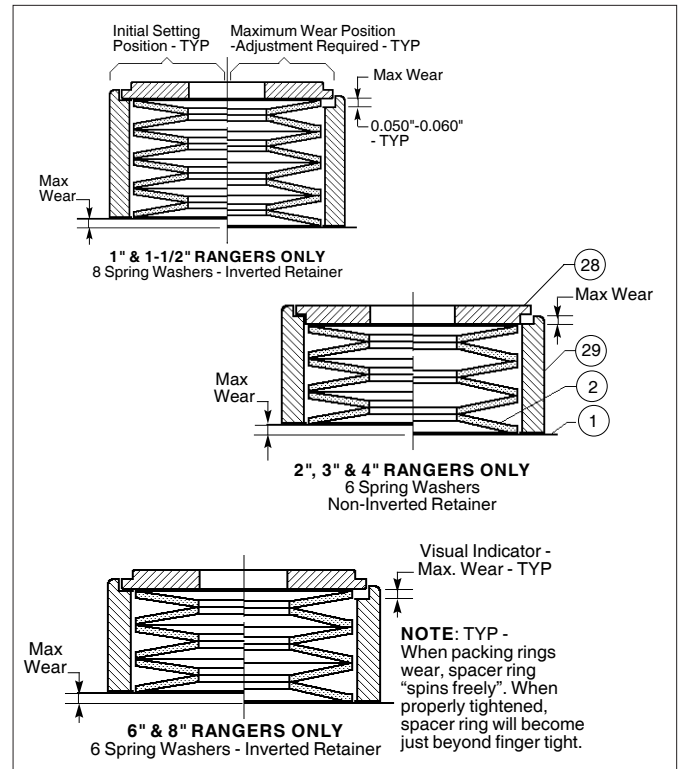
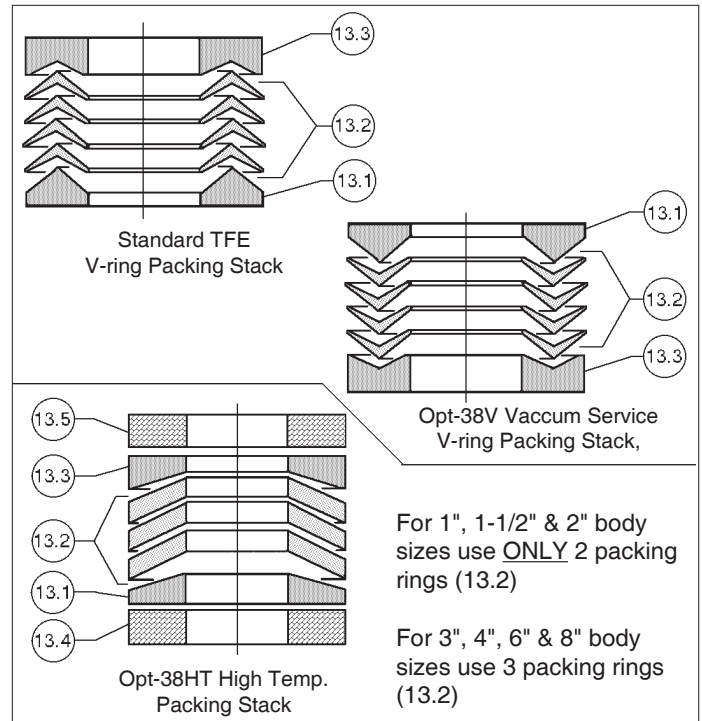

FIGURE 9
FIGURE 11
1. Ensure that packing flange nuts (22) have not worked loose during shipment.
2. For non-live loaded construction, hand tighten the nuts (22) enough to stop any leakage. Do not over tighten.
3. For live loaded construction, if spacer ring (29) is loose, tighten both nuts (22) equally
until spacer ring (29) no longer “spins freely” using two fingers. Rotate both nuts (22) additional 1/2 revolution for correct packing load. See Figure 9 for correct orientation of live-loaded packing design.
1. Remove the actuator assembly (AA) from the valve body assembly (BA). Refer to Actuator maintenance manual IOM-48 or 148/148X.
2. Secure body (1) in a vise with the stem (7) horizontal to the floor. Place matchmarks between yoke (12) and body (1) to assist in final orientation when reassembled.
- a. Loosen both packing flange nuts (22) until clearance exists between the bottom of the nut (22) and the retainer (28).
- b. Spacer ring (29) should “spin freely”. If stacked mechanism (27)(28)(29) is not loose due to corrosion, debris, packed dirt, etc., tap the spacer ring (29) lightly while attempting to pry up the spacer ring (29) bottom with a thin flat tool.
- c. Remove both packing flange nuts (22) only after the live-loaded mechanism (27)(28)(29) is “free” and loose.
- d. Pry up both live-loaded mechanisms (27)(28)(29) one side at a time. Carefully lift the mechanism (27)(28)(29) over the packing stud (21) ensuring that the Belleville spring washers (27) are not dropped in removal, preventing a determination of washers' (27) orientation one-to-the-other. Set the two mechanisms (27)(28)(29) down together, side by side.
- e. Inspect the retainers (28) for orientation. Both of the retainers (28) should have the same orientation. Improper/differing orientations will cause unbalanced loading of the packing rings (13). See Figure 9 for proper orientation.
- f. Inspect both spring washer (27) stacks for proper orientation by carefully lifting off the spacer ring (29) and retainer (28), exposing the spring washer (27) stack. Each stack of spring washers (27) should be oriented the same. Improper/differing orientation will cause unbalanced loading of the packing rings (13). See Figure 9 for proper orientation.
- g. Replace all Belleville spring washers (27) if there are any signs of corrosion. It is recommended that spring washers be replaced in full sets. The spacer rings (29), retainers (28), as well as the packing studs (21) should be replaced if corroded.
- h. Remove yoke (12) bolting by removing two cap screws (19) on 1", 1-1/2" and 2" sizes, or two nuts (22) on the 3", 4", 6" and 8" sizes.
- Secure body (1) in a vise with stem (7) vertical to the floor. Reassemble stem (7) per appropriate Subsection E., F., or H.
- Never replace packing (13) without reconditioning the stem (7) surface finish and the body (1) stuffing box as specified in Subsection IV.D.
- For TFE V-Ring Packing. (See Figure 11.)
NOTE: Following text pertains to “standard” packing stack (13) orientation. Stack procedures differ slightly for other packing options. See Figure 11.
- Remove packing follower bushing strip (16). Solvent clean packing follower (15). Insert new packing follower bushing strip (16). Ensure no overlap of strip (16).
- Carefully place lower adapter (13.1) of packing ring set (13) over stem's (7) end, properly oriented (see Figure 11). Using the packing follower (15), push the adapter (13.1) into the body's (1) stuffing box.
- Carefully install the first individual V-ring (13.2) over stem's (7) end, properly oriented. Push down as far as possible using fingers. Carefully place each ring (13.2) upon the other until all V-rings (13.2) are stacked, properly oriented.
- Place upper adapter ring (13.3) over the stem's (7) end, properly oriented.
- Place the packing follower (15) over the stem (7) end, properly oriented, until sitting on the upper adapter ring (13.3).
- i. Place each spring washer (27) stack over its packing stud (21) oriented as shown in Figure 9.
- j. Place each spacer ring (29) over its packing stud (21) and spring washer stack (27) oriented as shown in Figure 9.
- k. Place each retainer (28) over its packing stud (21) oriented as shown in Figure 9. Ensure that each retainer (28) is properly positioned into each spacer ring's (29) groove, and that the retainer's (28) inversion is correct.
- a. Solvent clean the packing follower (15).
- b. Carefully place the lower braided ring (13.4) over the stem's (7) end. Using the packing follower (15) push the braided ring (13.4) into the body's (1) stuffing box. **NOTE:** *It will be necessary to pull up on the stem (7) as the rings (13.2, 13.4) and lower adapter (13.1) are "pushed" into the stuffing box.*
- c. Carefully place the lower adapter (13.1) properly oriented (see Figure 11) over the stem's (7) end and push into the stuffing box similar to the lower braided ring (13.4) of Step 4.b.
- d. Carefully place a packing ring (13.2) properly oriented (see Figure 11) over the stem's (7) end and push into the stuffing box similar to the lower braided ring (13.4) of Step 4.b. Repeat for each ring (13.2).